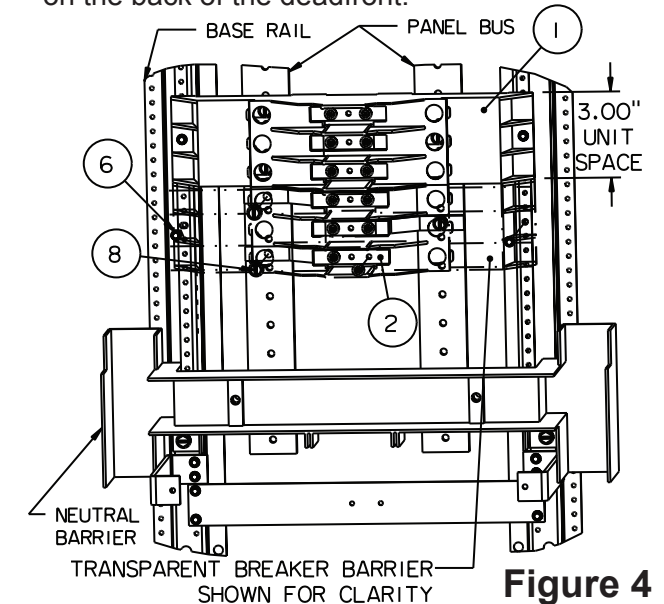

Figure 4
6. Reference Figure 4:
Position the breaker mounting barrier (item 1) so that it fills the 3" unit space for the kit and fasten it to the base rails using two #8-32 screws (item 6). Install the phase connectors (item 2) within the mounting barrier, alternating between the left and right panel bus. The left-right-left connector pattern shown in Fig. 4 may be reversed if necessary to continue a connector pattern already in place in the panel. Fasten the connectors to panel bus with three 1/4"-20 x 1" screws (item 8).